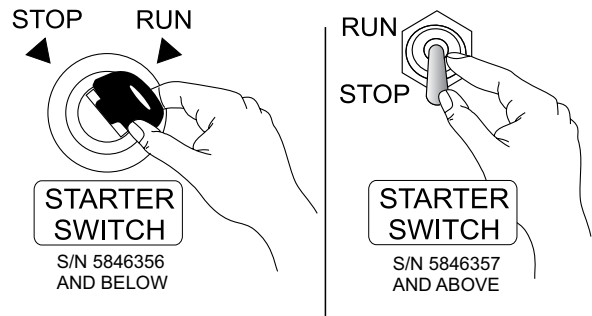

Figure 50. Starter Switch (STOP Position)
4. Place ignition key (Figure 50), S/N 58446356 and below in the **STOP** position or place starter toggle switch, S/N 58446357 and above in the **STOP** position.
Place ignition key or starter toggle switch (Figure 50) in the **STOP** position.